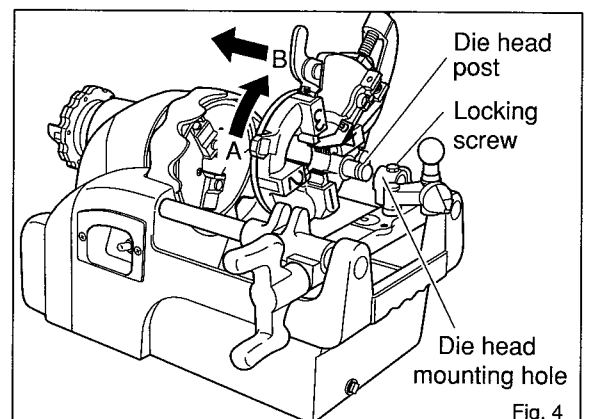

Fig. 4
4. Attaching and Removing the Die Head (Fig. 4)